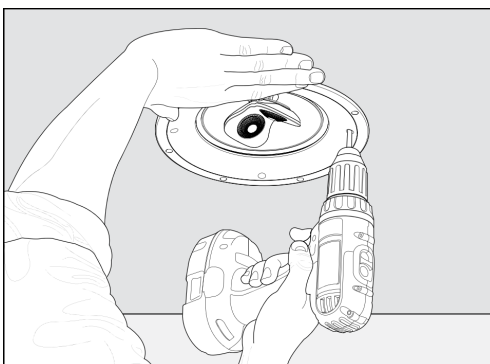

Fig. 3d
- 4) Supporting the assembly with one hand, tighten each screw (Fig. 3d or 4e). Stop tightening when you sense resistance.